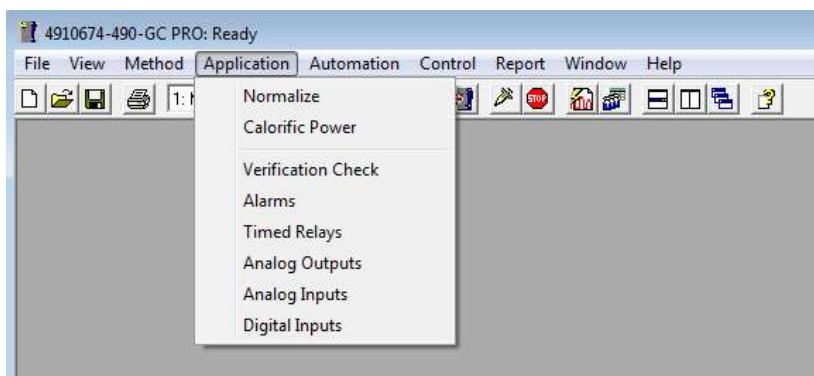

Figure 60: Open Normalize window.
- Open Normalize window. Select: Application\Normalize, see Figure 60. This table should be filled with the identified peaks from the Peak Integration/Calibration table, see Figure 61.